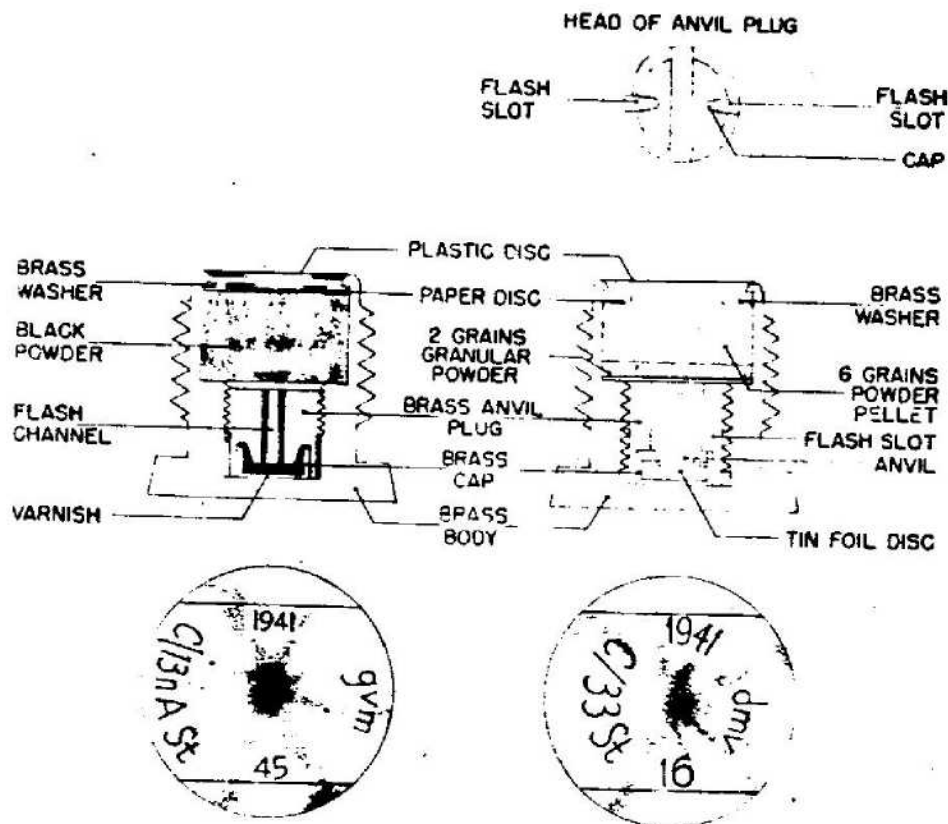

Figure 321—Percussion Primers c/13nA and c/33
**EMPLOYMENT.** German Percussion Primer used on Q. F. Cartridges. (See fig. 321.)